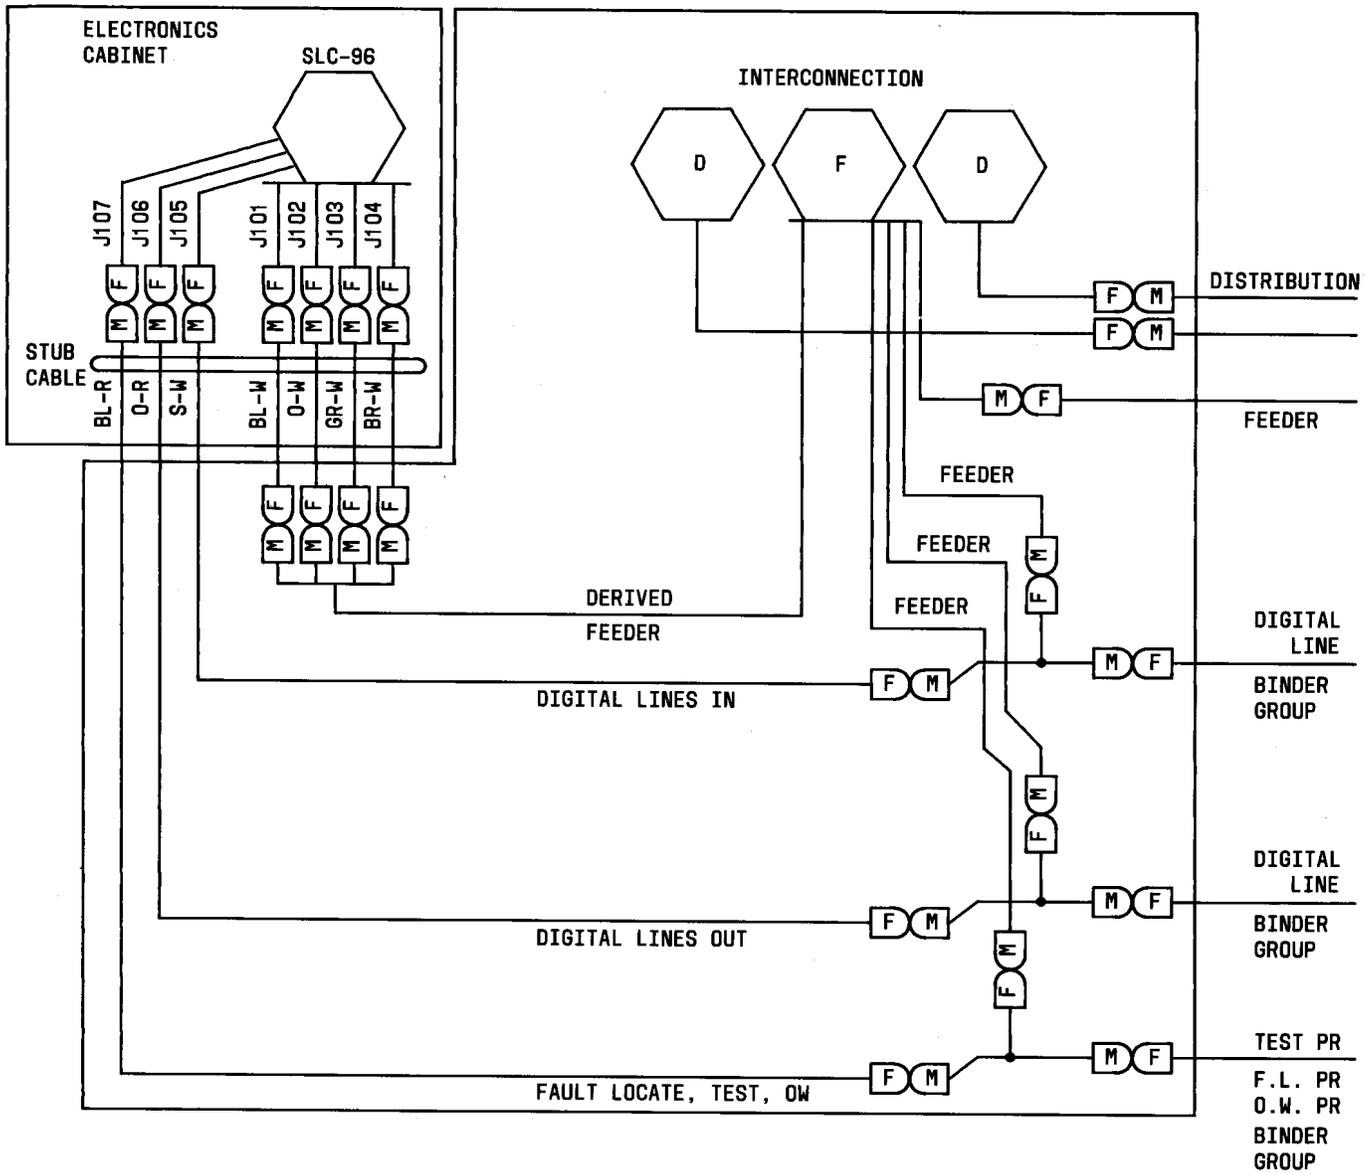
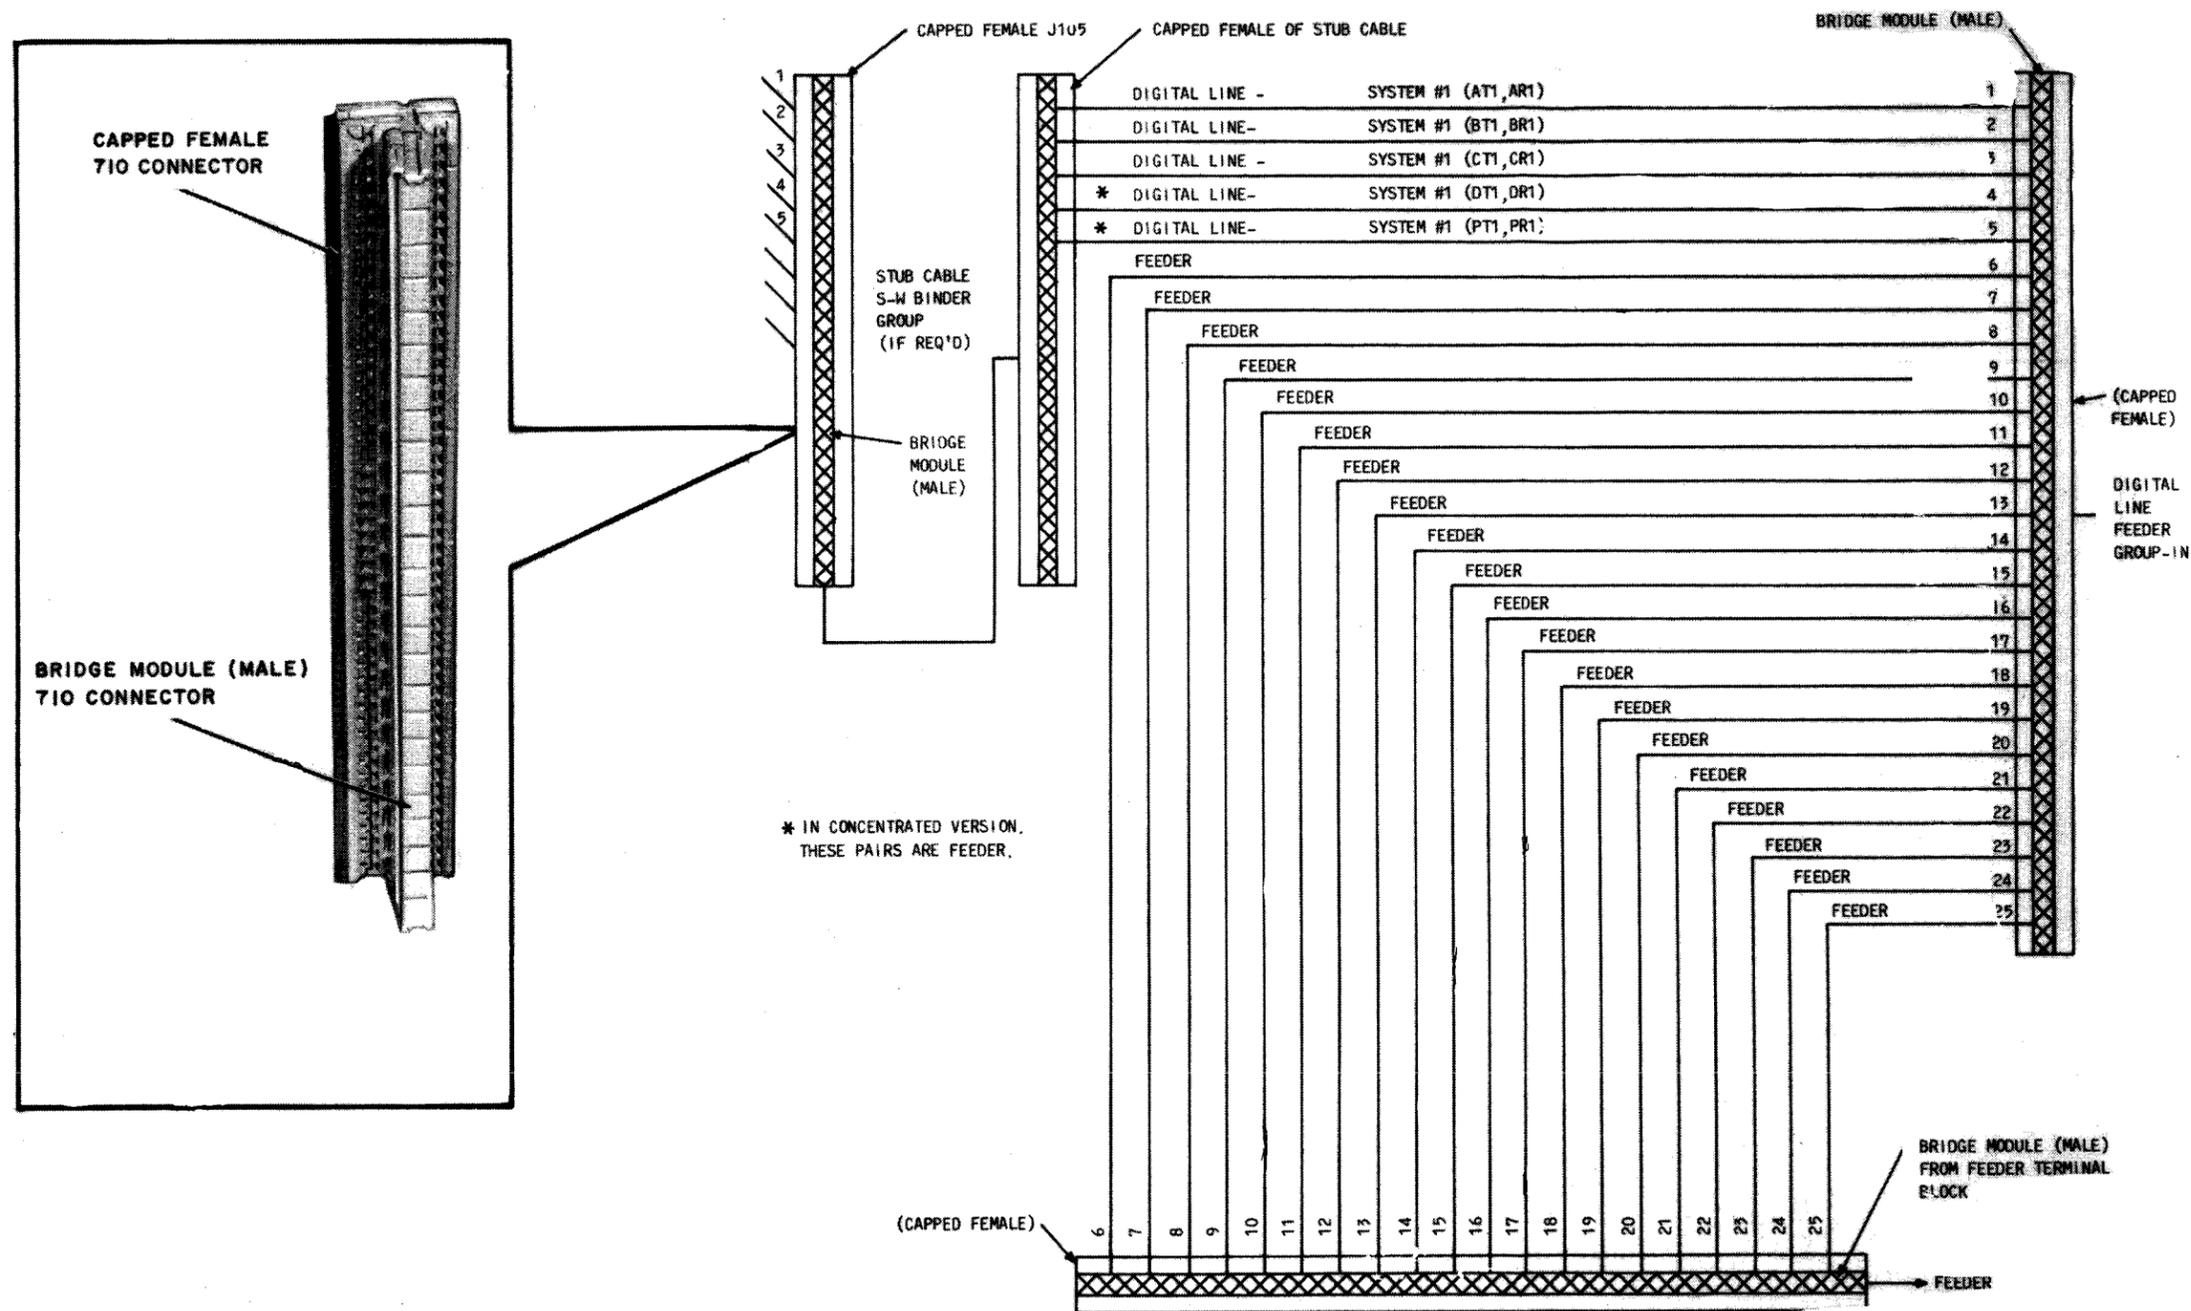

Fig. 20—CONECs Cable Requirements
Fig. 22—Digital Line Feeder Group—IN-Splicing
7.05 As shown in Fig. 20, a 200-pair MSAB or MSAL (aerial or buried) CONECS cable for the electronics cabinet is required. This is a PC6 pedestal closure cable with 710-BC-25 connectors. Termination of the other end is a function of the interconnection field used.
7.12 As shown in Fig. 20, a short splicing harness may be made up for the digital line binder groups and fault-locate pair, test pair, and order wire pair binder group as outlined in Fig. 22, 23, and 24, respectively.
7.13 Mate the 710 connectors as shown in Fig. 20.